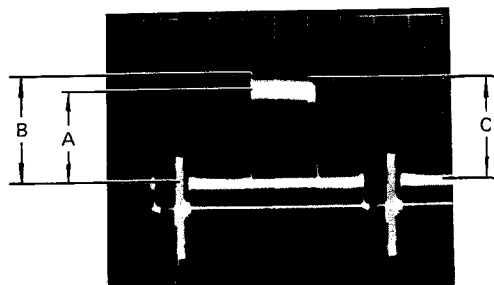

Fig. 5-6-18
- o Trigger the oscilloscope at H rate. (Use TP9 (BL), Deflection board.)
- o Confirm that the horizontal detail (aperture) signal B and C is $(B+C)/2A \times 100 = 125 \pm 5\%$. If not, readjust VR18 (H GAIN). (Fig. 5-6-18)